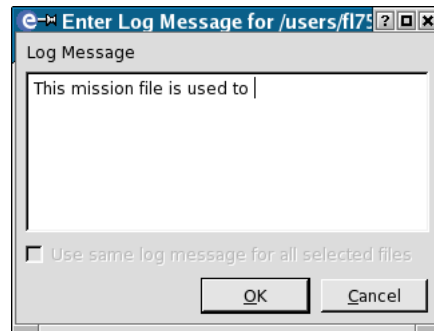

Figure 3.1: The Log Message
- Add...* Add the selected file to the repository. A dialog appears where you can enter a text describing the change. See Figure 3.1 for an example.